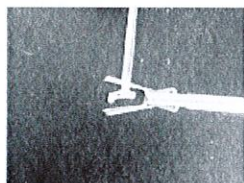

Fig 7
6. Apply sufficient force to the applier handles so the jaws close and the clip locks shut (Fig 5). Releasing pressure on the applier handles allows the applier to return to a fully open position (Fig 7).
7. Insert the clip remover to enter the body . The clip shall be approached from the hinge side, not the locking mechanism side. Make sure that the jaws are directly over and in line with the legs of the clip (Fig. 7). Advance the remover until the user visualizes the hinge of the clip resting at the back of the remover jaws. NOTE: The hinge of the clip shall rest in this channel to ensure disengagement of the clip legs.